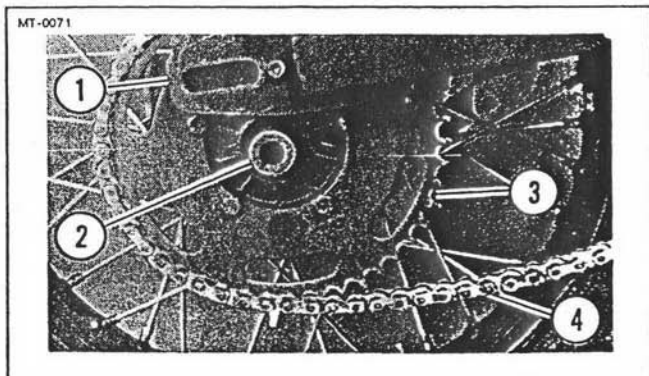

Figure 5-44. Removing Hub Spacer
6. See Figure 5-44. Push wheel forward so brake disc clears caliper. Lower wheel from swing arm (1) and tilt top of tire to right. Remove spacer (2) from sprocket hub. Disengage drive chain (4) from sprocket (3).
3. See Figure 5-44. Place drive chain (4) over teeth of sprocket (3). Install spacer (2) onto sprocket hub (2). Raise wheel and tire, pulling wheel toward rear of vehicle and inserting brake disc between pads of brake caliper.